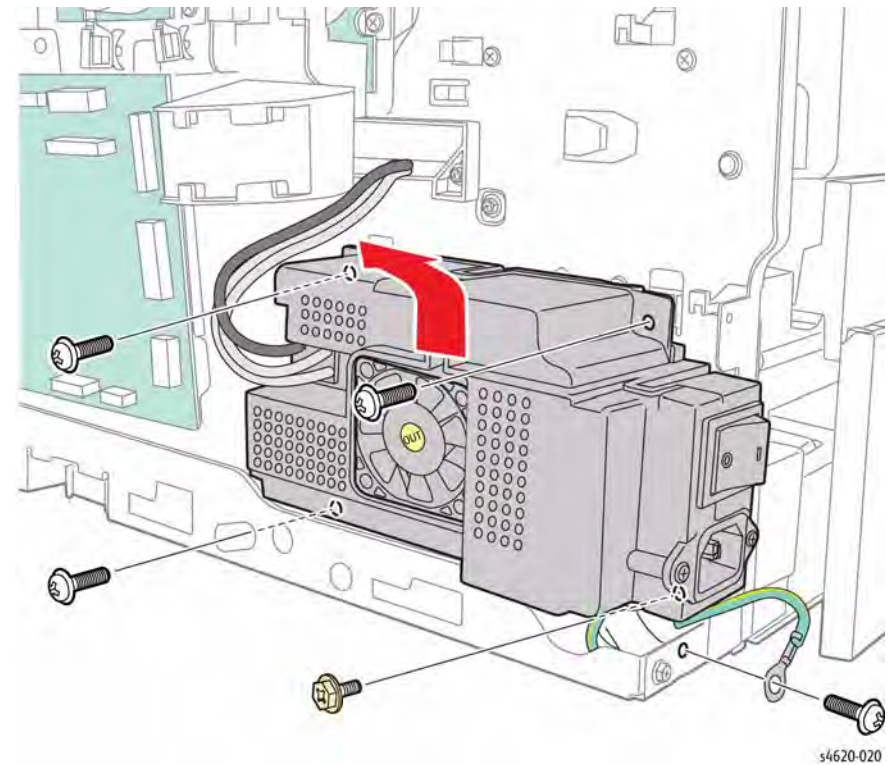

Figure 1 Remove the Fuser Drive Assembly screws
6. Remove 4 screws (metal) that secure the assembly to the chassis, Figure 1.